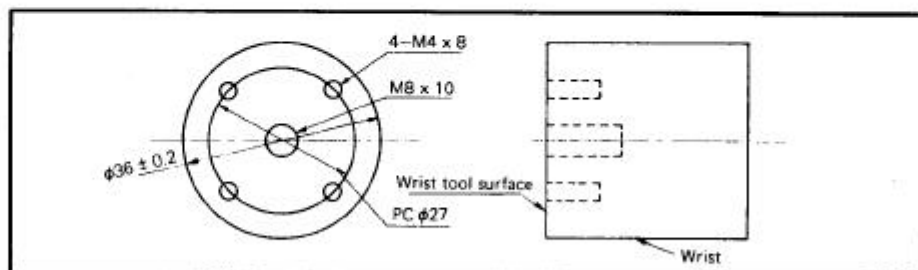

Fig. 9.1 Robot hand attachment part
- (1) The robot hand attachment part is as shown in Fig. 9.1.
- (2) First, attach the accessory hand attachment plate with four accessory P pan-head screws M4 x 10 and four spring washers M4.
- (3) Next, attach the standard hand to the hand attachment plate using four accessory P countersunk screws M4 x 10.
- (4) Attach the cord attached plate fitted to the middle part of the curled cord with two accessory P pan-head screws M3 x 6 to the based plate of the robot unit.
- (5) Insert the connector at the tip of the curled cord into the hand connector of the robot.